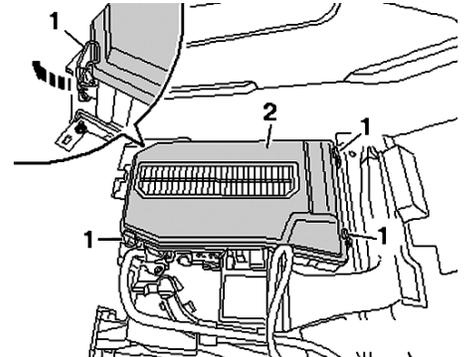

Fig. 2 Battery cover clip locations
7. Open rear clips (1) with a screwdriver, **Fig. 2**.
13. Remove cover (2) over battery by releasing retaining clamps (1), **Fig. 2**.